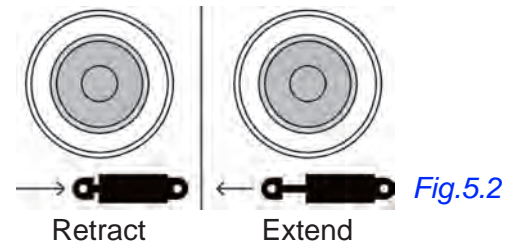

Fig.5.2
2. Connect hydraulic quick coupler on end of hose coming from bottom port on flow regulator to rear tractor hydraulic outlet port "Extend". See Fig.5.2.